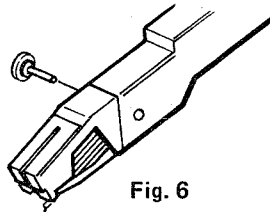

Fig. 6
1. Remove the cartridge fixing screw (Fig. 6).